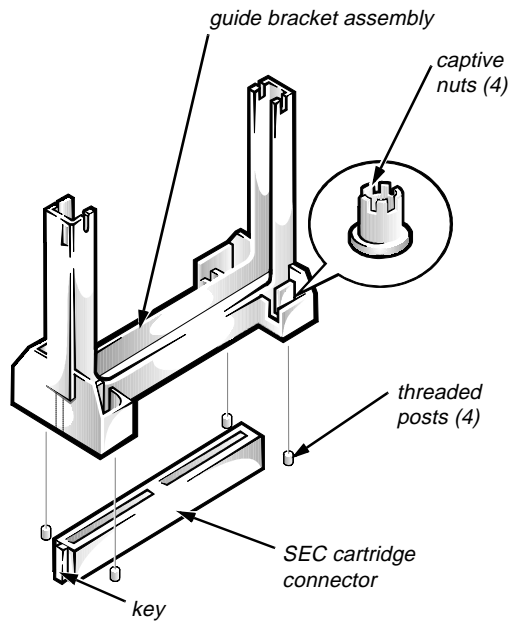

Figure 2. Guide-Bracket Assembly Removal
1. Using a #2 Phillips screwdriver, loosen each of the four nuts securing the guide bracket assembly to the system board (see Figure 2).
To install a replacement system board, install the guide bracket assembly for the SEC cartridge. The assembly is keyed for correct insertion (see Figure 2). Then install the SEC cartridge and heat sink assembly. Transfer the DIMMs to the new system board, and install the expansion cards removed from the old system board.